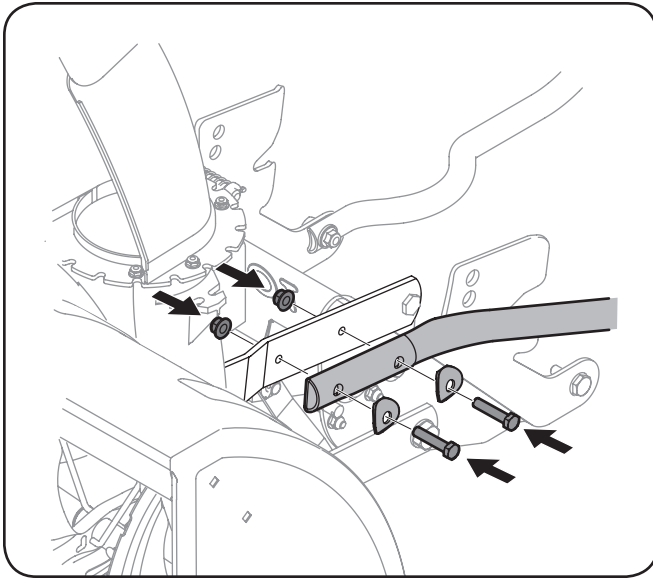

Figure 3-15
1. Attach the chute directional control assembly to the upper lift link on the left side of the auger housing. Assemble with two hex screws and two saddle washers as shown in Figure 3-15. Secure with two flange nuts.
- Position the auger housing assembly in front of the tractor. See Fig. 3-15. Lay the belt and support tubes on the installation surface.